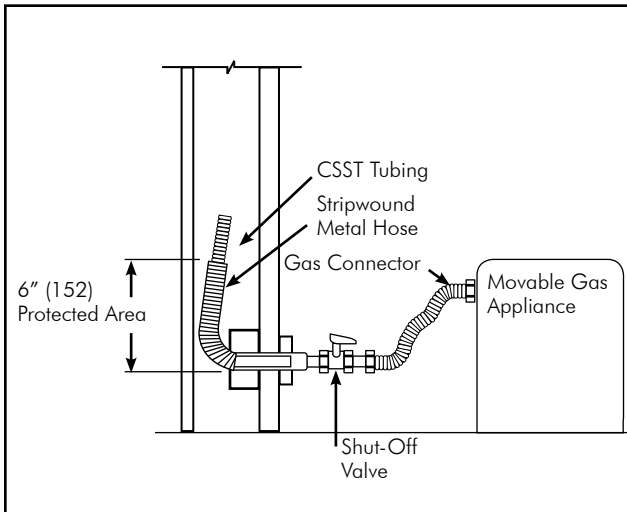

FIG. 4-21 Stainless Steel Gas Connector Connection to a Movable Gas Appliance
A. ALSO NOTE MINIMUM DISTANCES OF STRIP WOUND METAL CONDUIT IN **FIG. 4-21 & 4-22**
- **Movable appliance connections**, such as ranges and dryers, shall be made using approved flexible appliance connectors (See **FIG. 4-21**).